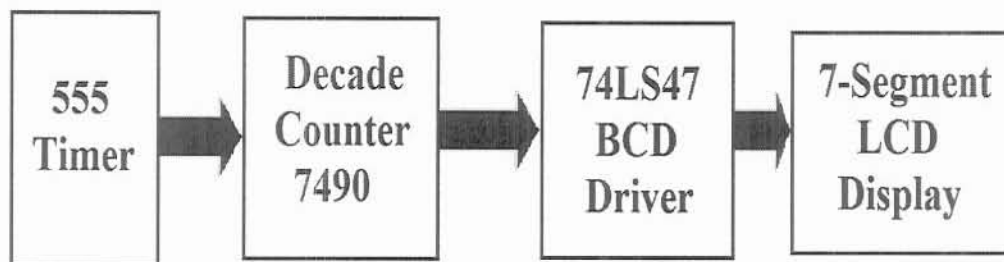

Figure A1.1: Digital clock block diagram
Three out of four components of a digital clock are Integrated Circuits (IC) : the 555 timer, the decade counter 7490, and the BCD 7-segment LCD display driver. The last component is 7-segment LCD display. Figure A1.1 shows the 4-module block diagram of a digital clock.
The following sections discuss in detail each module specified in figure A1.1.